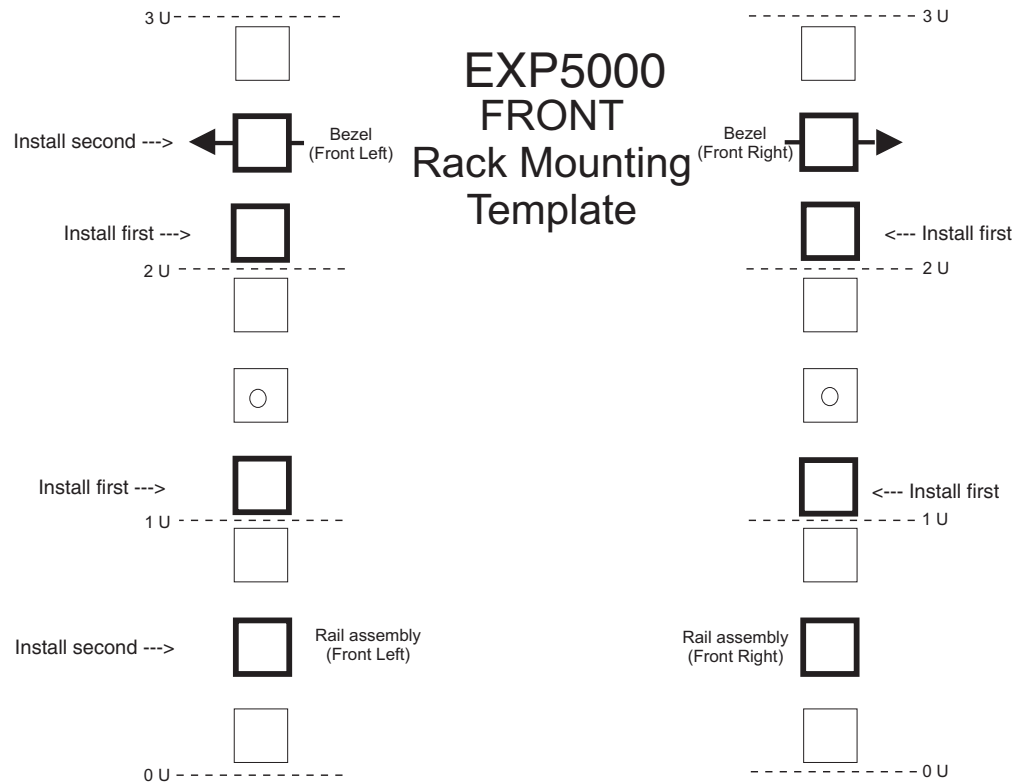
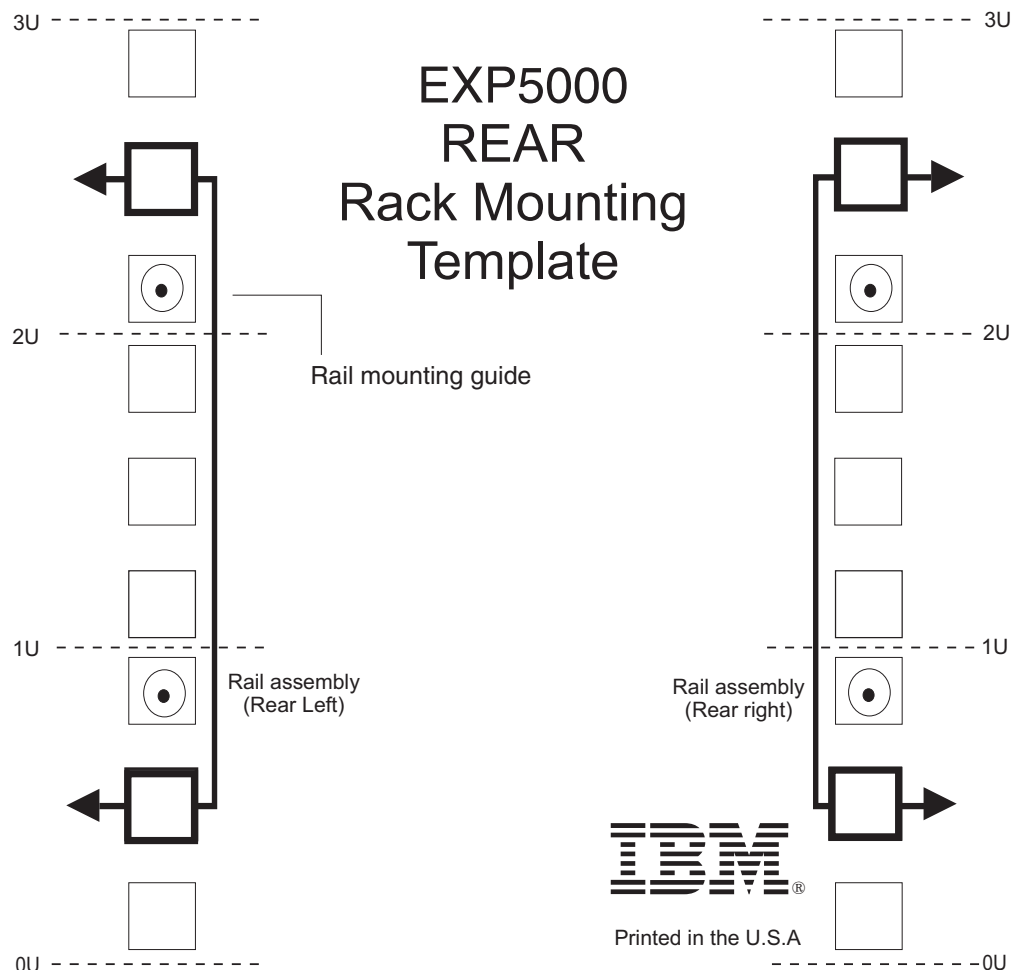

Figure 9. Front rack mounting template
Figure 10. Rear rack mounting template
Use the following templates (Figure 9 on page 23 and Figure 10 on page 24) to identify the proper locations for inserting M5 screws when mounting the support rails and EXP5000 to a rack. The locations for the M5 screws are highlighted in the templates.
Attention: Use the rack mounting template provided in Figure 9 on page 23 and Figure 10 on page 24 to locate the proper rack mounting holes for installing the support rails into the rack.
6. Hold the back of the rail against the inside of the rack-mounting flange. Make sure the rail mounting guide pins are in the correct holes. See Figure 10 on page 24 for an illustration.
Note: Be sure to install the screws labeled *install first* in Figure 9 on page 23.